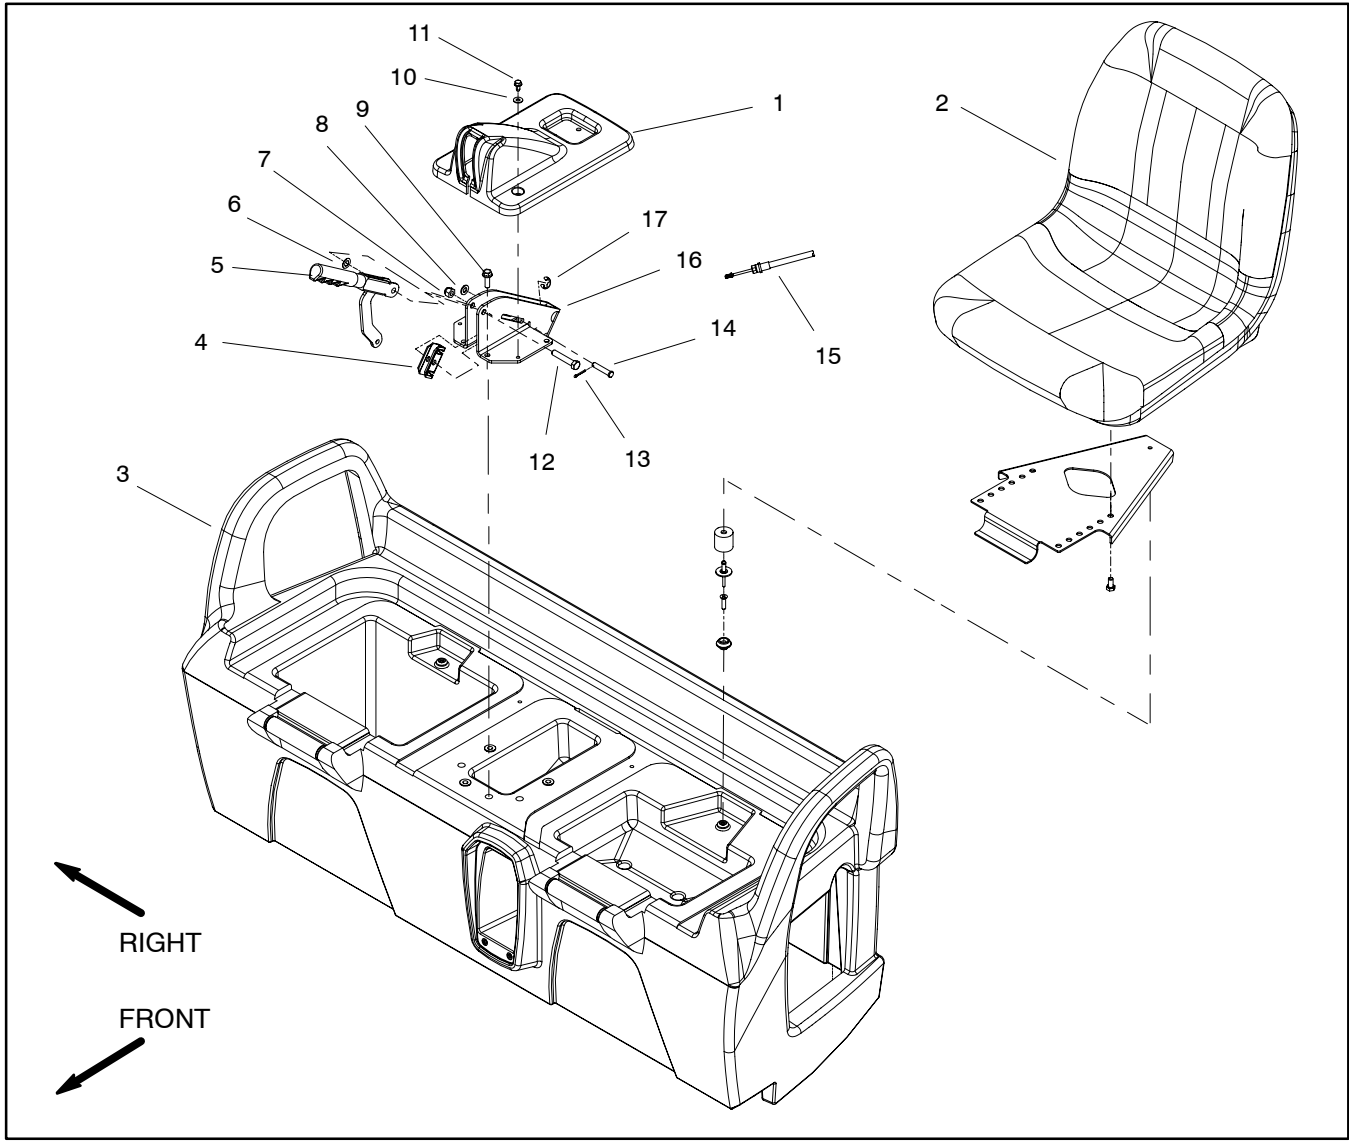

Figure 12
### Disassembly (Fig. 12)
5. Remove four (4) flange head screws that secure parking brake support to seat base.
7. Remove brake cables from parking brake support and cable equalizer bracket using Figure 12 as a guide.
### Assembly (Fig. 12)
1. Secure brake cables to parking brake support and cable equalizer bracket using Figure 12 as a guide.
3. Secure parking brake support to seat base with four (4) flange head screws.